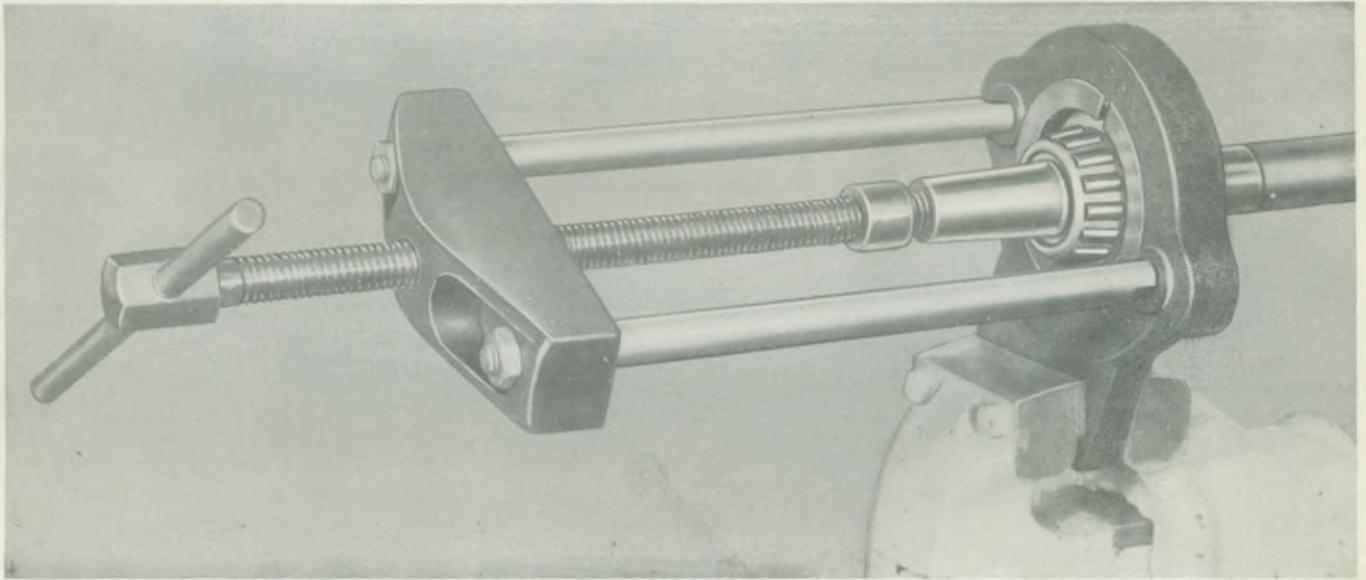

Fig. 5. Extraction of rear hub bearing inner ring—Tool No. 20SM-4615
6. Withdraw axle shaft with inner ring of bearing. The inner ring of the bearing may be withdrawn with the extractor as shown in Fig. 5, after first removing the key.